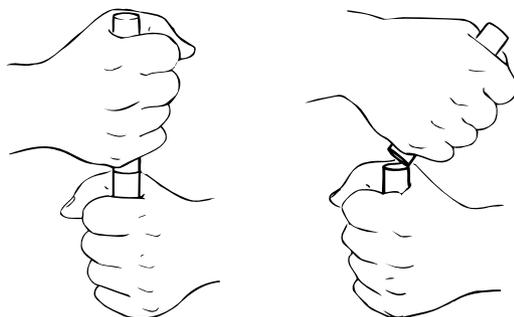
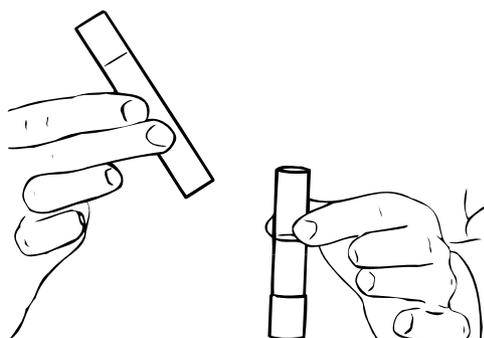

Figure 9 Breaking the 'D' End of the Collector Tube
Figure 10 Discarding the 'D' End
13. With the **D** end still up, break the collector tube in half by pulling the **D** end hard towards the user to break it, then twisting and tearing off the **D** end (Figure 9). Discard the **D** end (Figure 10). Prevent lost droplets by holding the **M** end on a firm surface and cracking off the **D** end.